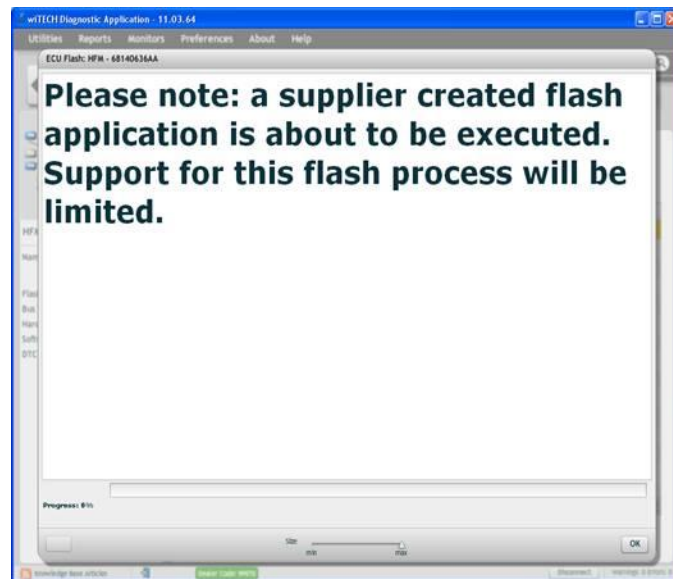

Fig. 4 Supplier Application Warning Dialog
5. The Supplier Application Warning Dialog will appear (Fig. 4). Click on OK to acknowledge the warning.